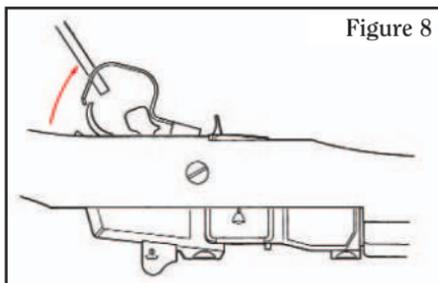

Figure 8
3. Invert the rifle and use a 1/4" diameter steel rod, punch, screwdriver shank, or other suitable instrument inserted into the hole in the rear of the trigger guard as a lever to spring open the trigger guard from its latched position. (See Fig. 8.)